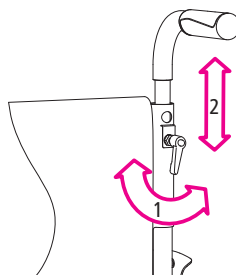

Fig. 23
5. Loosen the clamping lever screw by one or two turns (1, Fig. 23).
6. Adjust the handle to the desired height (2, Fig. 23).
7. Then tighten the locking screw securely again (1, Fig. 23).